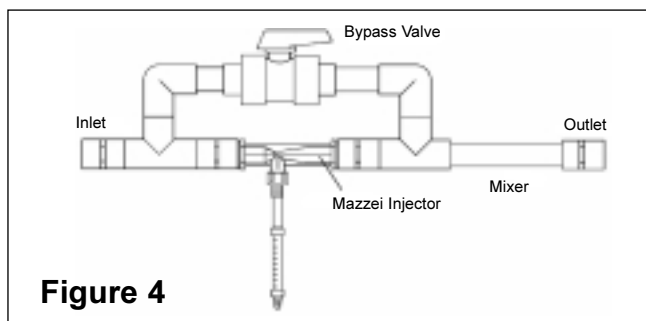

Figure 4
10. To adjust the Mazzei injector: (Figure 4)